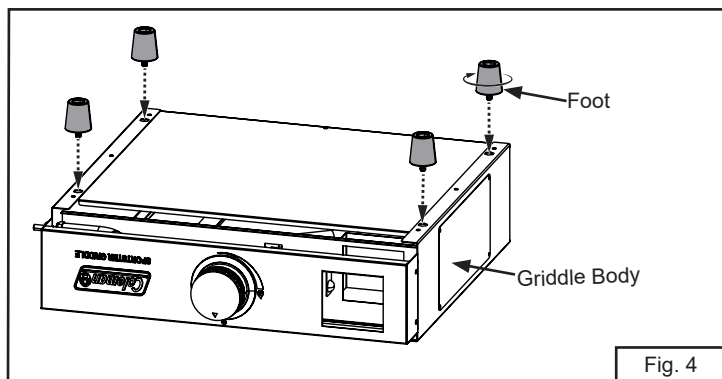

Fig. 4
3. Attach all four feet to the bottom of the griddle body by turning them clockwise. (Fig. 4).